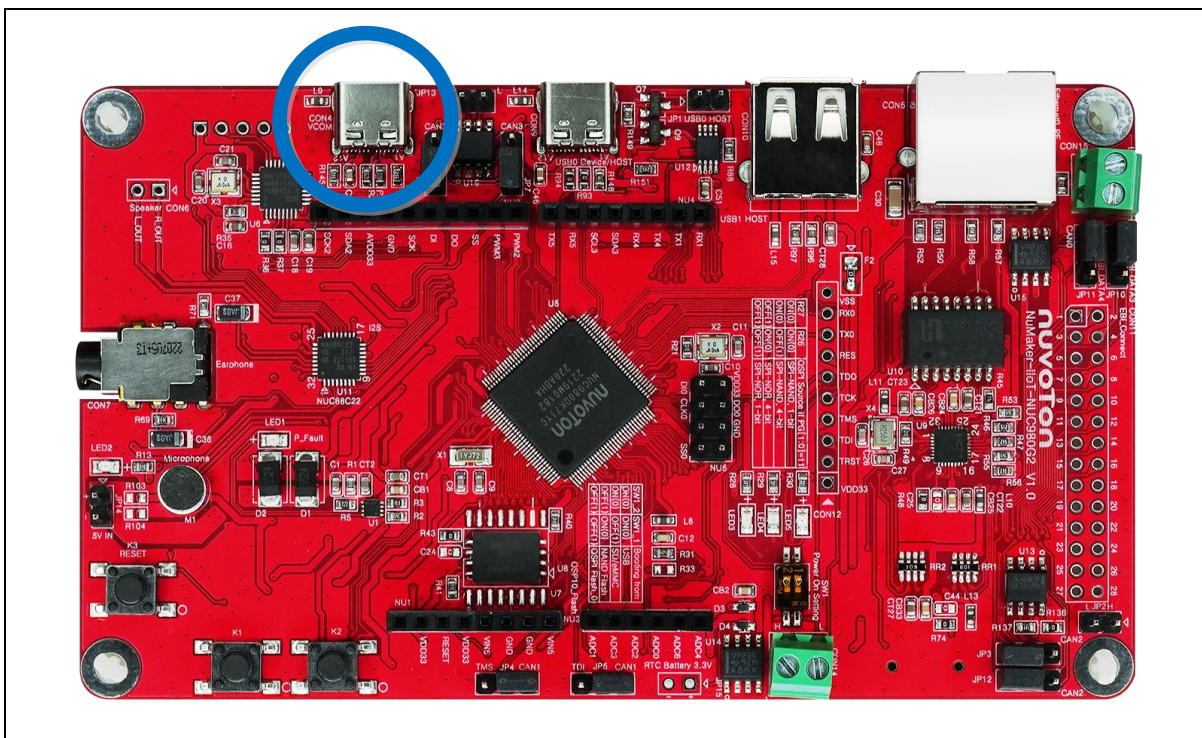

Figure 4-6 USB-Serial Debug Port
1. Connect USB-Serial connector shown in Figure 4-6 to the PC USB port through a USB type C cable.